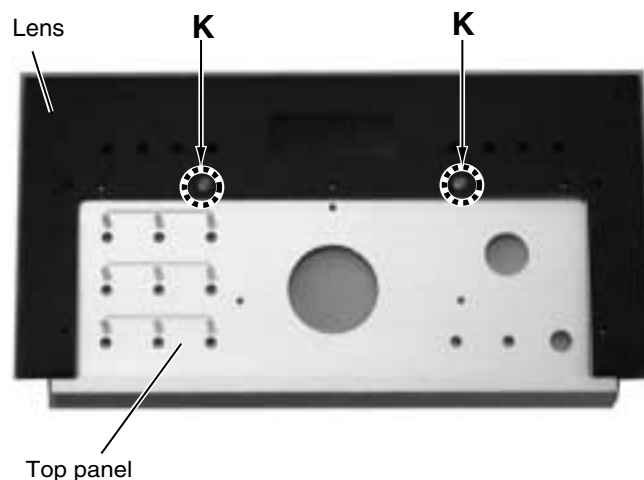

Fig.10
■ Removing the top panel (See Fig.10)